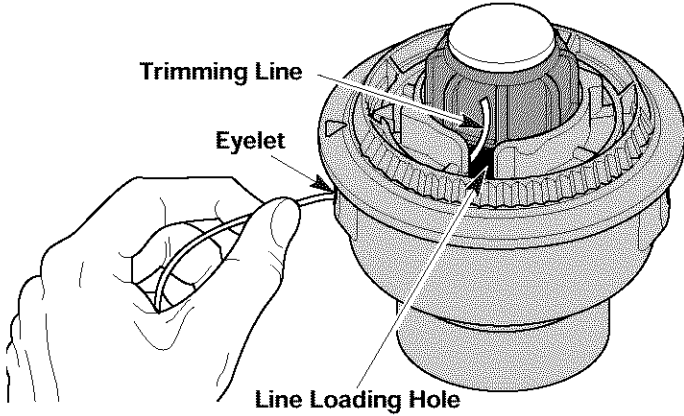

Fig. 13
3. Pull old line out of the line loading and line locking holes (Fig. 13 and 14).
4. Insert a piece of trimming line into one of the two eyelets in the outer spool. Push it up through the line loading hole in the inner reel (Fig. 13). Do not bend the line when inserting it into the eyelet.